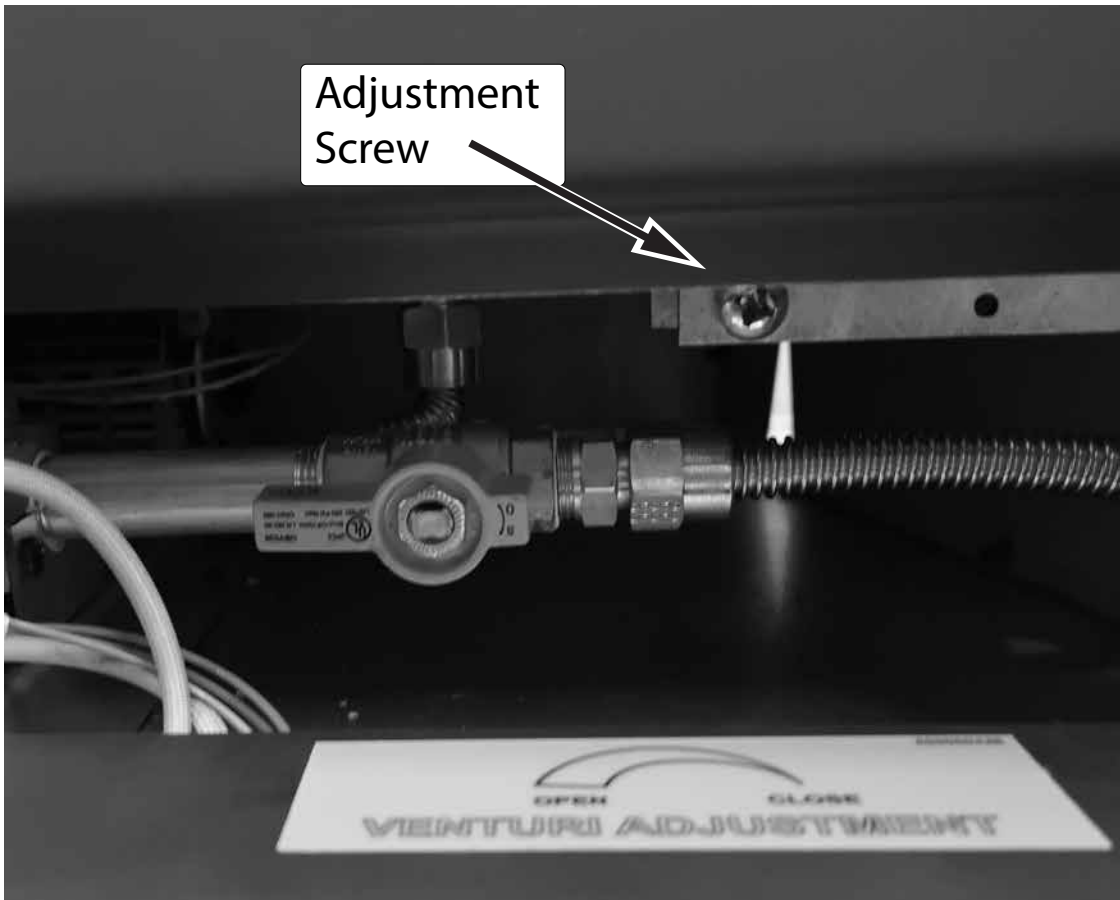

Figure 84: Z25 Venturi adjustment.
3. With the fireplace turned on, use the adjustment screw, located under the door on the right hand side (Figure 84) to adjust for flame appearance. Rotating Clockwise closes the damper and Counterclockwise will open it.